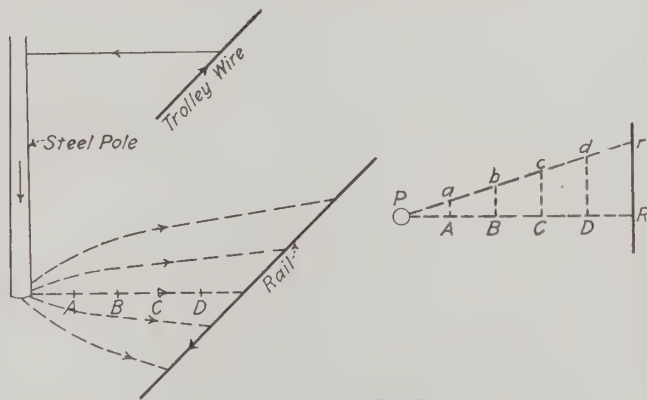

Fig. 1—Grounded Conductors
Figure 1 shows this condition approximately. The curved dotted lines are the probable paths of current from the base of the pole to the track, water pipes, or other conductors in the street. It is evident from this figure that the cross section of the paths through the earth from the pole to the rail increases as we get further from the pole. The resistance consequently gets less and since the same current flows across the successive layers of the path, A-a, B-b, C-c, D-d to R-r, the drop in voltage from A to B is greater than that from B to C, etc. The total drop from P to R is the trolley voltage let us say, 500 volts. If we assume that the steel pole is 8 inches in diameter and that it is embedded in the earth ten feet from the nearest rails, and that the trolley wire is accidentally connected to the pole, thus throwing 500 volts on the path from the pole through the earth to the rail, there will be from a point 2 ft. from the center
**Ground Potential.**—If one leg of a three phase transmission line is grounded as at A in Fig. 1, will a potential indicator give a deflection if suspended from the grounded leg? If the leg that is grounded be isolated, say, 500 ft. from the other legs, will the indicator give deflection? What does the potential indicator show, voltage to ground or between phases?—U. F. N.